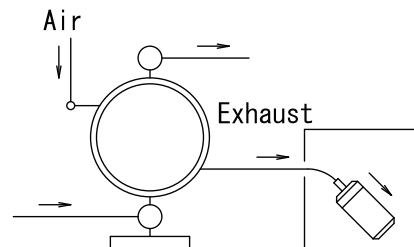

Fig. 3.2
* Exhaust should be directed outside, not into the fluid in which the pump is submerged. For information on how to arrange the exhaust, see Note: Arranging outside exhaust and Fig. 3.2 below.